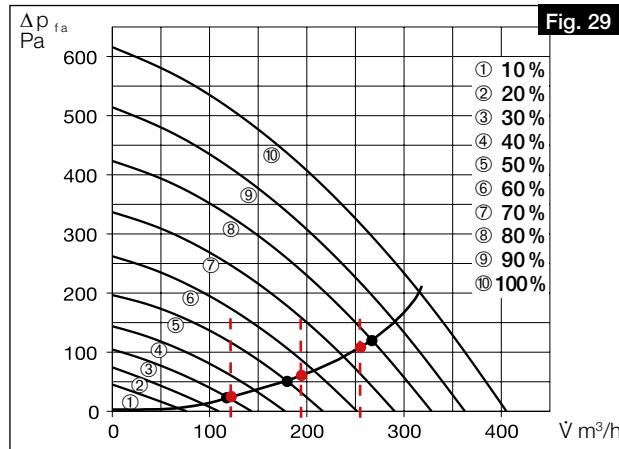

Fig. 29
1. Enter the flow rates from the design calculation for the three ventilation profiles “At home”, “Away from home” and “Intensive ventilation” in the unit characteristic curve for supply and extract air (cf. Fig. 29).
① We recommend setting the following values in the ventilation profiles:
2. The approximate fan powers to be set (in %) can be read from the ventilation profiles at the points of intersection of the flow rates and the system characteristic curve. Enter these in the corresponding ventilation profile via the easy-Controls 3.0 software or the control element KWL-BE Touch (cf. Fig. 29 and Fig. 30).